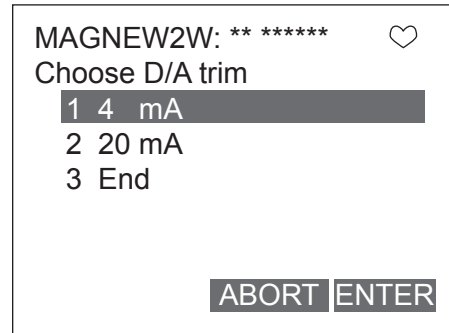

Fig. 7-41.
2. Once the display as shown in Fig. 7-41. appears, move the arrow key up or down to select HIGH, LOW, or HOLD. After making a selection, press F4 (ENTER). If F3 (ESC) is pressed here, the selection will be canceled and the display will return to the Analog output menu.